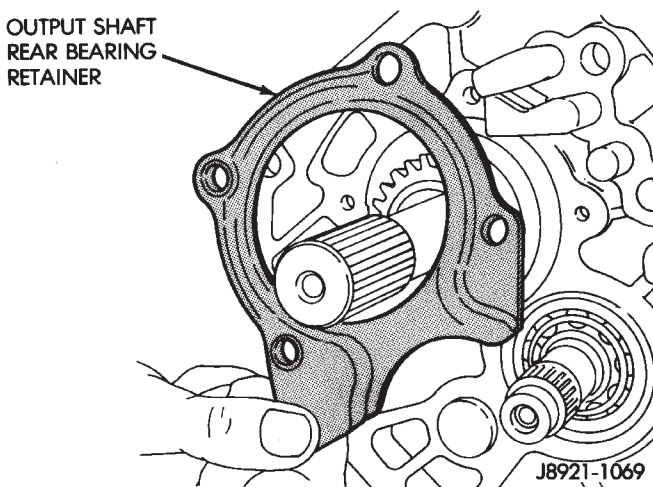

Fig. 62 Remove Output Shaft Rear Bearing Retainer
(14) Remove rear bearing retainer (Fig. 62).